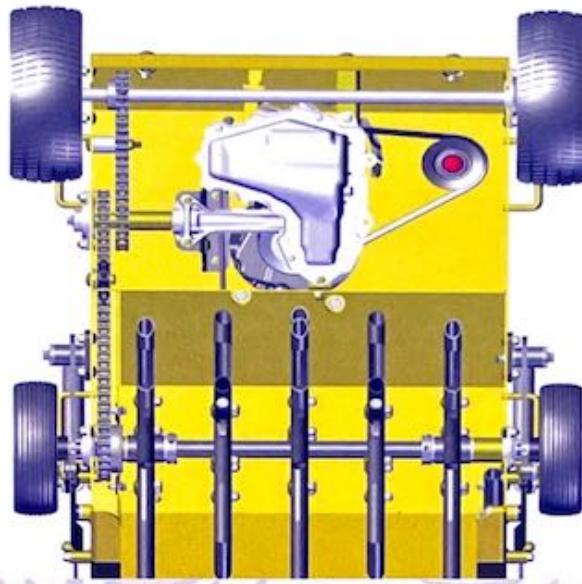

Figure 7
1. Loosen idler pulley as shown in figure 7.